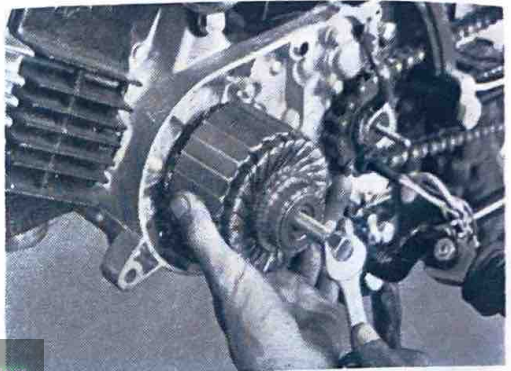

Fig. 3-1-8
8. Pull out the armature with the armature puller bolt or shock puller. (Fig. 3-1-8)